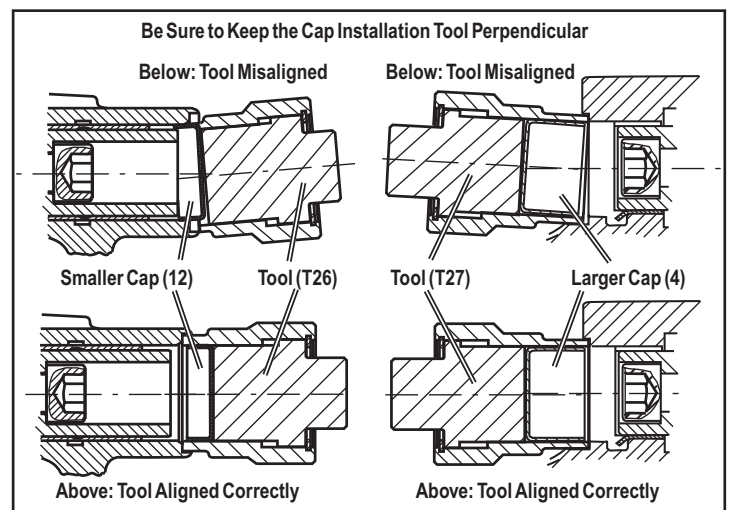
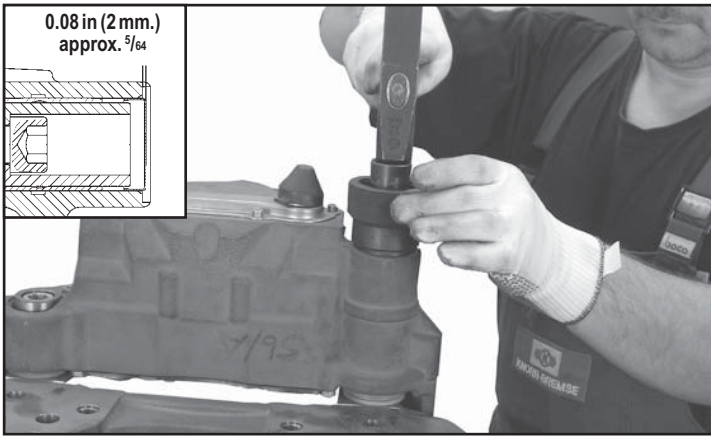

FIGURE 6 - GUIDE CAP INSTALLATION
FIGURE 7 - GUIDE CAP (12) INSTALLATION
Select one cap, and with the correct press-in tool. The smaller cap (12) uses tool (T26), and the larger cap (4) uses tool (T27). Position the cap in position, using the machined channel in the caliper to assist in centering the tool. Use a hammer to tap them into position. See Figure 6. Note that the tool needs to remain perpendicular to the channel to prevent damage during installation. Note that, after installation, the smaller cap (12) extends 0.08 in. (2 mm.), and the larger cap (4) extends 0.61 in. (15.5 mm.) - see Figures 7 and 8.